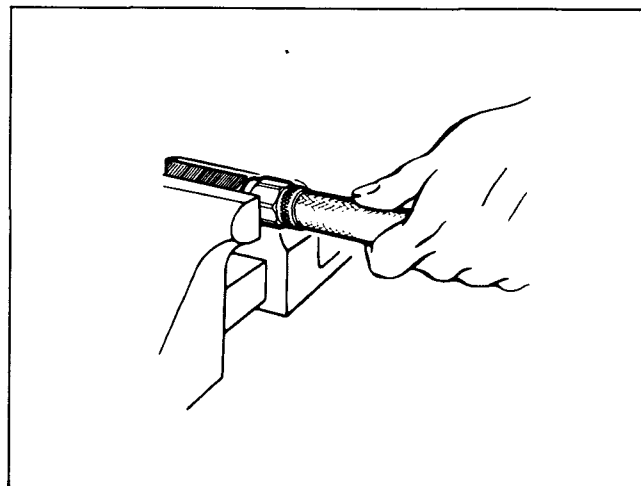

Fig. 7-5, (N10737). Installing hose into socket
4. Hold hose so it enters socket straight to prevent cocking of hose in socket. Fig. 7-5. Rotate hose counterclockwise while pushing it into socket.